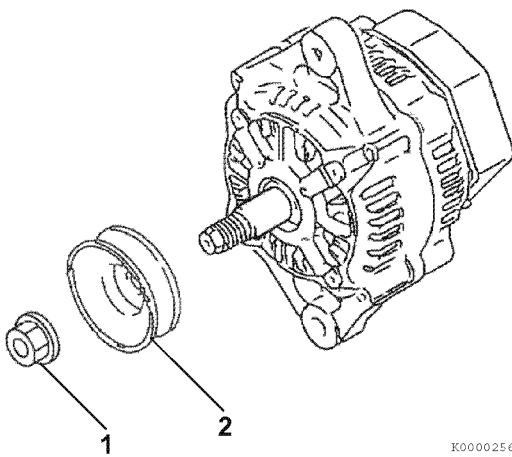

Figure 12-18
11. Reassemble the pulley (2, **Figure 12-18**) and nut (1, **Figure 12-18**) to the shaft of the rotor assembly. Tighten the nut.